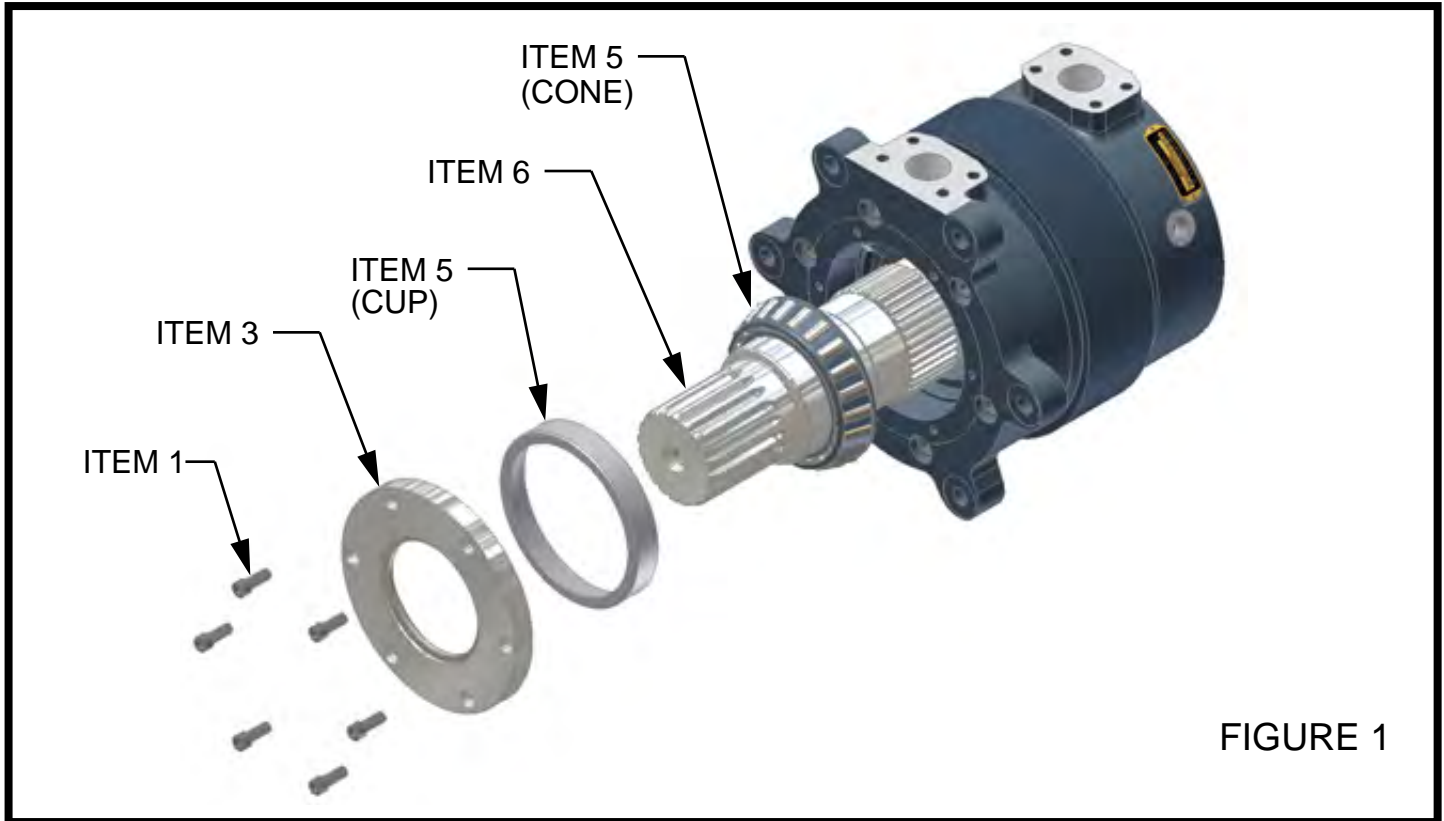

FIGURE 1
9) Press the front bearing cone (item 5) and install on front journal of shaft to fully seat against shaft shoulder. (See Figure 1)
14) Set the front seal plate (item 3) in place, taking care of the seals when installing over the shaft.
15) Bolt up front seal plate using bolts removed previously. (See Figure 1 above)